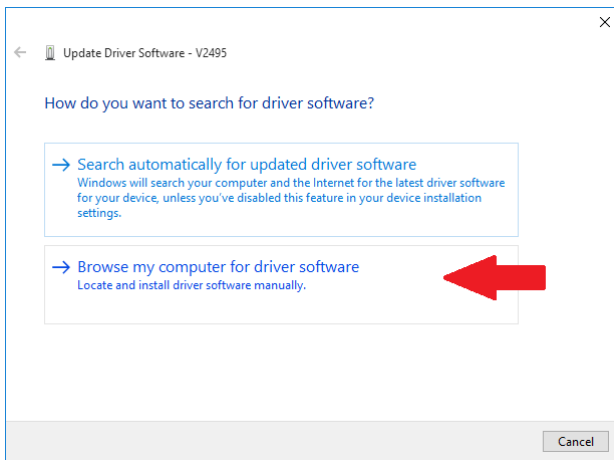

Fig. 11.3: USB driver manual installation: Step2
5. Select *Browse my computer for driver software* as in Fig. 11.3.